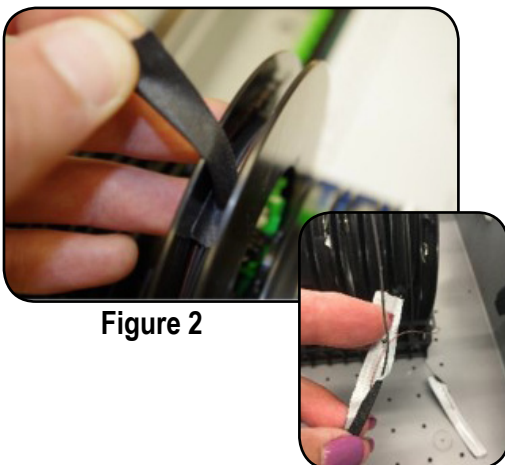

Figure 2
2. Pull/extend desired wheel forward **(Figure 1)**, carefully remove tape holding the fiber in place **(Figure 2)**.